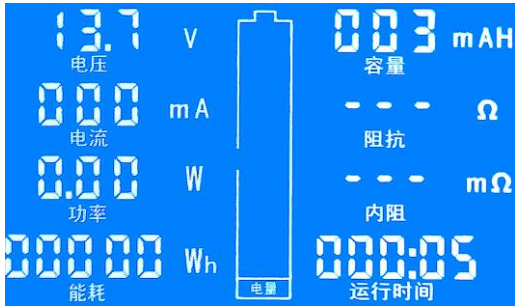
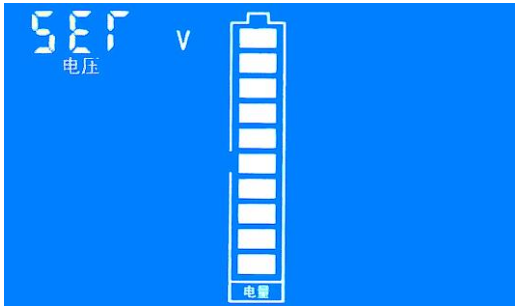
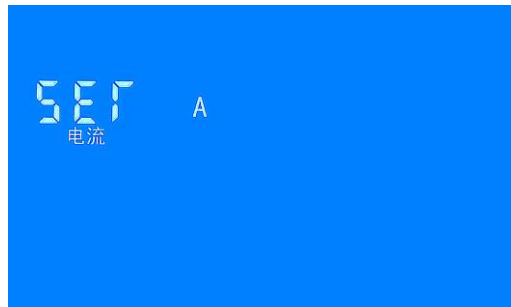

Figure 1: the normal display interface
Figure 2: the voltage setting interface
Figure 7 Current range setting interface
Step 1: In the normal display interface(like fig. 1), long press the button until the LCD screen display the interface like fig. 2, then release the button
Step 1: In the normal display interface, long press the button until the LCD shows the interface of Figure 2, then release the button, short press the button again switch to the interface to Figure 7, it indicates that this state is the current range setting state.
Step 1: In the normal display interface, long press the button until the LCD shows the interface of Figure 2, then release the button, short press the button again switch to the interface to Figure 9, it indicates that this state is the clearing energy setting state.
Step 1: In the normal display interface, long press the button until the LCD shows the interface of Figure 2, then release the button, short press the button again switch to the interface to Figure 10, it indicates that this state is the clearing capacity setting state.
Step 1: In the normal display interface, long press the button until the LCD shows the interface of Figure 2, then release the button, short press the button again switch to the interface to Figure 11, it indicates that this state is the clearing running time setting state.